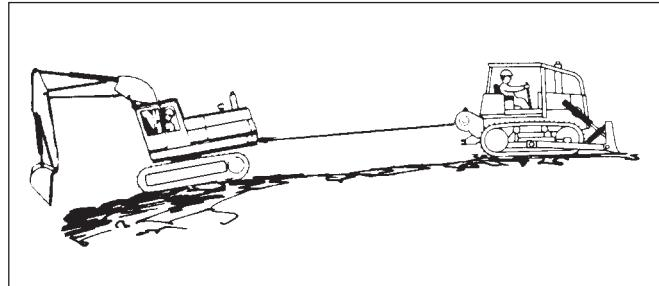

Figure 18 - Moving a Disabled Vehicle (Step B)
B. A tractor or skidder equipped with a winch can be used to pull another vehicle from mud or other areas where it cannot move using only the drive wheels or tracks. See Figure 18. Use the following procedure: